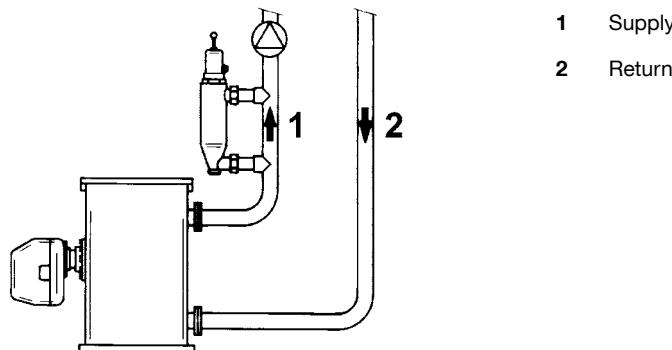

Figure 3: Installation example
- ▶ The pump must not influence the position of the floater in the WMS 800 (e.g., due to excessive flow action or suction). See Figure 3, Page 8.
- ▶ Install the WMS 800 in parallel in a vertical section of the supply pipe as shown in Figure 3, Page 8.